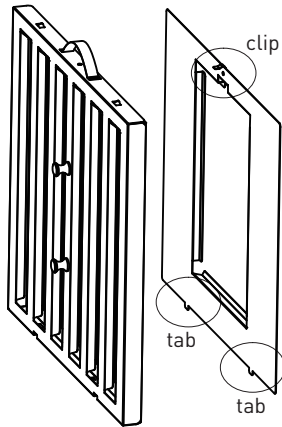

Fig. 10
Insert the charcoal filter bracket into back side of baffle filter (the side without handles). The (2) tabs on the bottom of the bracket should be inserted into the baffle filter first. Push the bracket towards the baffle filter to lock it in place. There is a clip on top of the bracket that will secure it to the baffle filter. (Fig. 10) Repeat this step for each bracket.